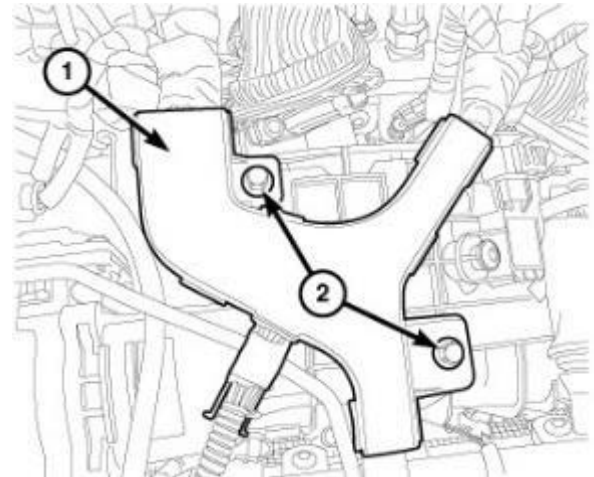

Figure 41 - Engine Wiring Harness
10. Remove the bolts (2) and pull up on the engine wire harness assembly (1) to release retainers from the intake manifold (Figure 41).